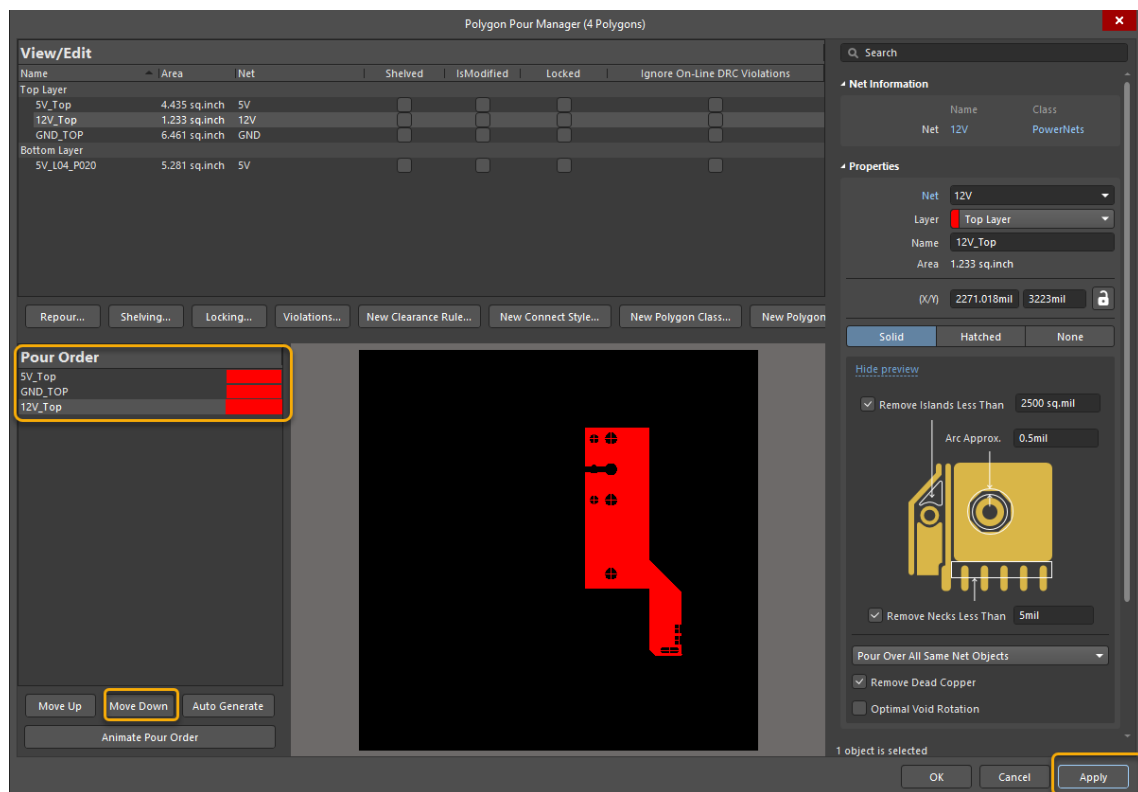

Figure 11. *Polygon Pour Manager*
35. Within the *Pour Order* pane, we can change the pour order of the polygons. Select the 12V_Top polygon and click **Move Down** until it is moved to the bottom of the *Pour Order* list as shown in Figure 11.